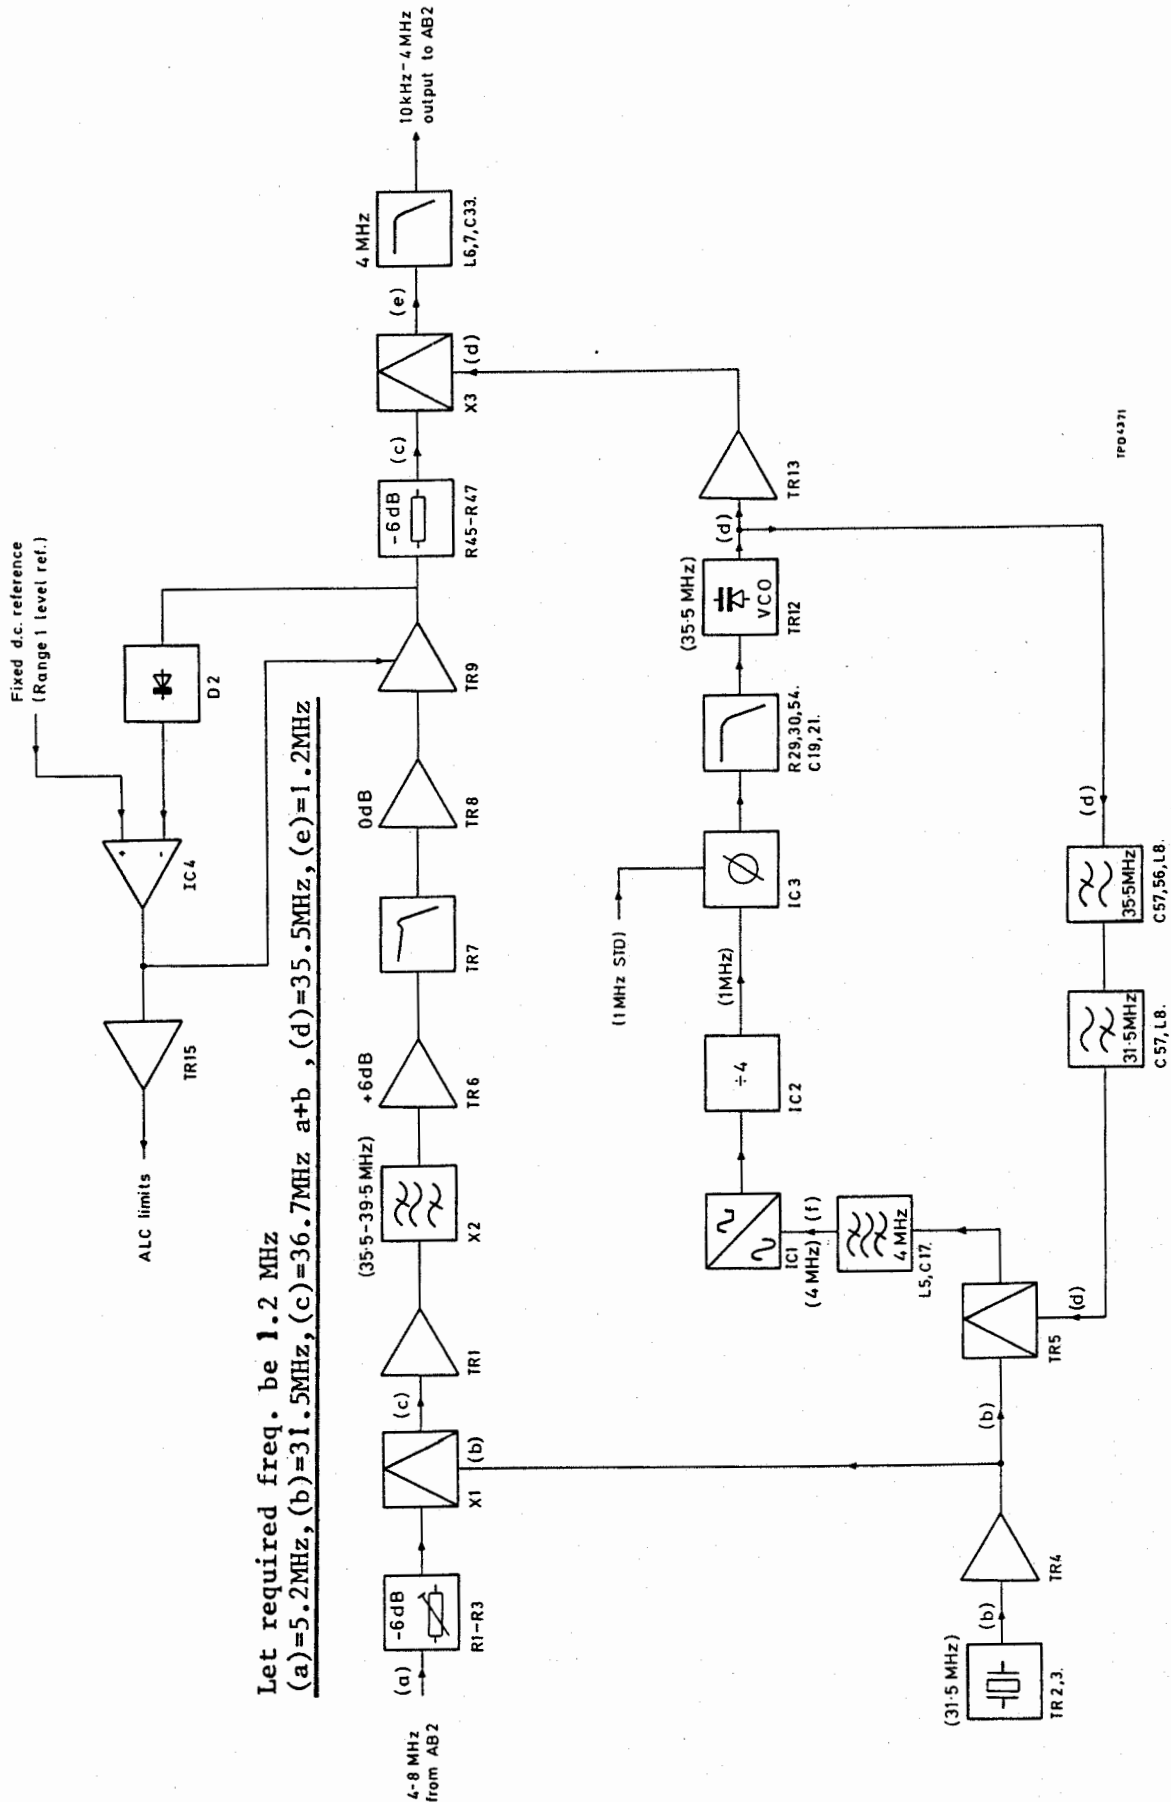

Fig. 11 10 kHz-4 MHz Range 1 processing (AB1) - simplified block diagram
58. Crystal controlled oscillator (TR2 and TR3). This has a resonant frequency of 31.5 MHz and includes a timed circuit in the collector of TR2 to suppress the third overtone of the crystal. TR4 amplifies and provides two outputs, one to signal mixer X1 via tuned circuit T1, C12, C34 (see (b) Fig.11 simplified block diagram) and the second via T1 coupling transformer secondary to the control mixer TR5.